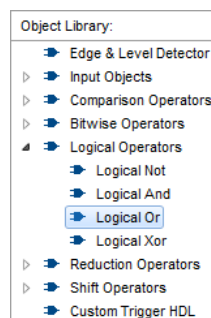

Figure 19. Select the Logical Or operator from the Object Library window and drag this into the editing window.
5. We now need to add the necessary logical operators to our circuit. We will need an OR gate as well as three edge level detectors. To access the OR gate, click on the plus sign next to Logical Operators in the Object Library and select Logical Or, as in Figure 19. Then drag and drop the operator into the editing window.